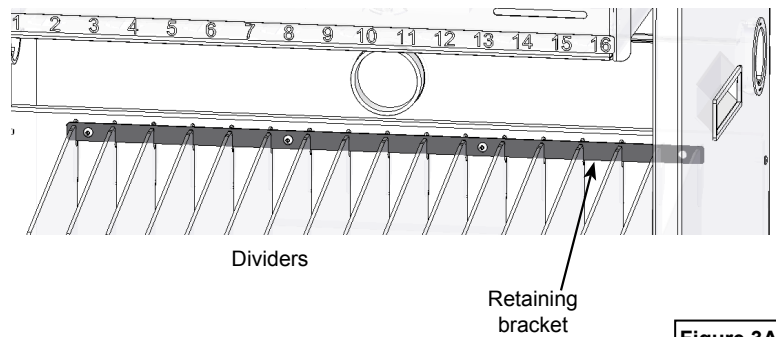
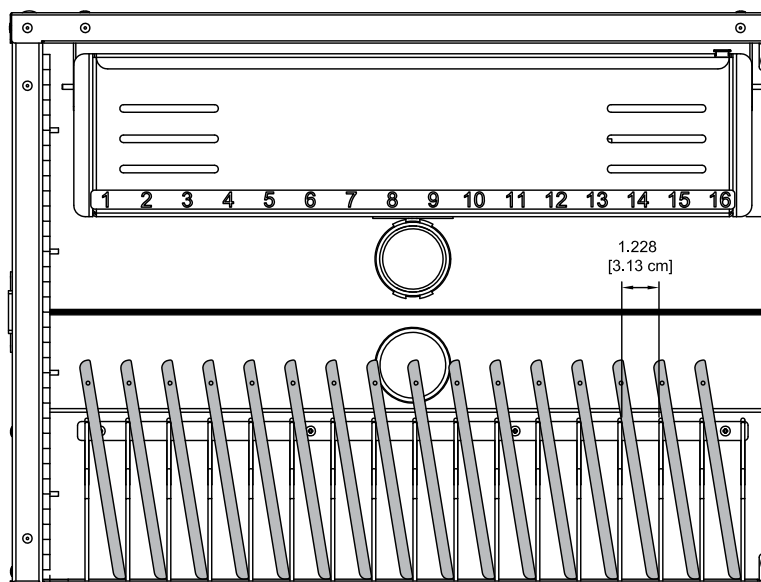

Figure 3A
Figure 3B
1. The cabinet dividers can be configured for use with multiple devices **Figure 3B-C**. If dividers need to be reconfigured, remove the retaining bracket at the back of the cabinet with a Phillips screwdriver, **Figure 3A** remove/reconfigure the dividers, then replace the bracket.